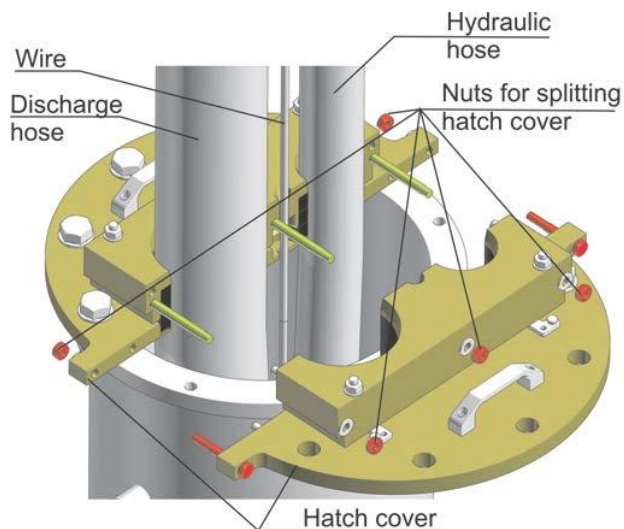

Fig. 3
- 5) Split the hatch cover in two halves by unscrewing the 5 nuts on cover (.fig.3)